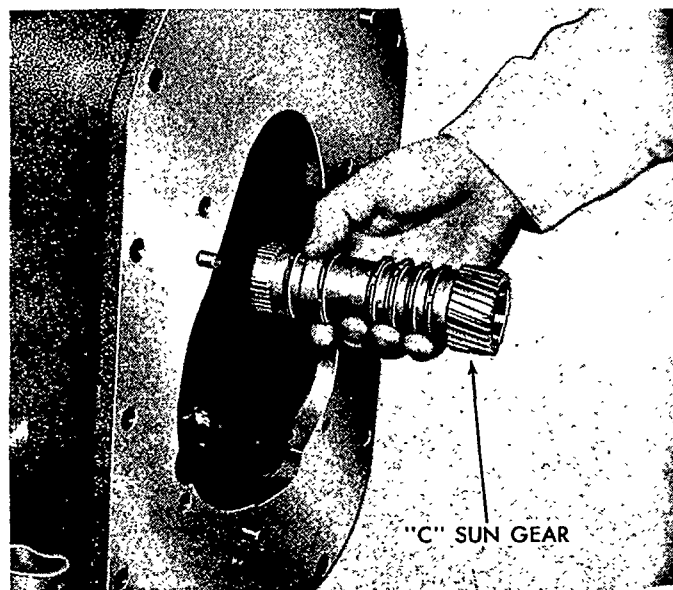

Figure 70
7. Remove the "C" sun gear as shown in Figure 70.